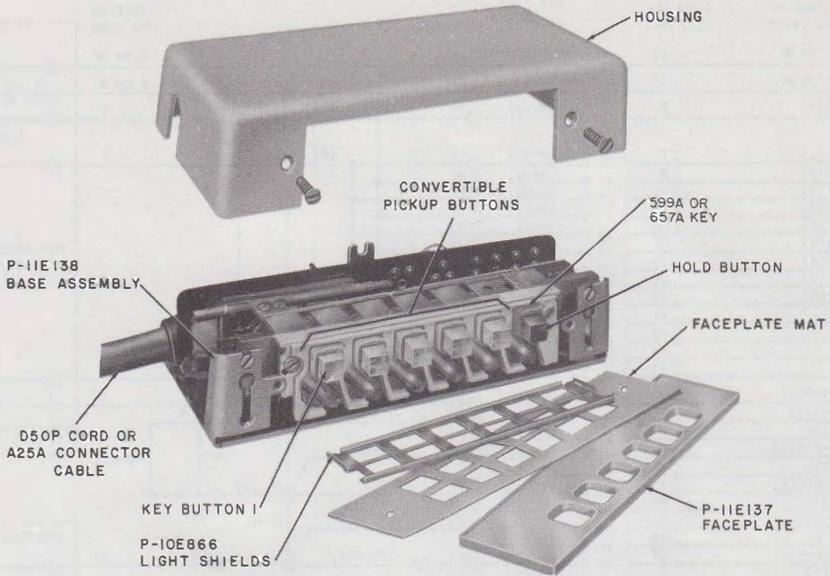

Fig. 7—6050A Key
- 3.09 Key can be mounted so that cable enters from front, rear, top, or bottom (Fig. 7).